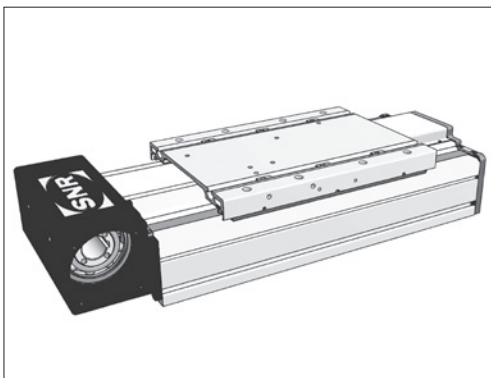

Figure 5.6 \_\_\_ AXDL with toothed belt drive
- 3 drive versions – toothed belt drive, screw drive or toothed belt /  $\Omega$  - drive (Figures 5.6 up to 5.8)